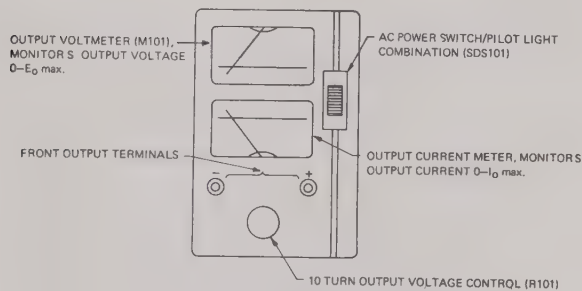

FIG. 2-1 FRONT PANEL TERMINATIONS, PCX–MAT
- FRONT PANEL: Refer to FIG. 2-1 (PCX–MAT only).